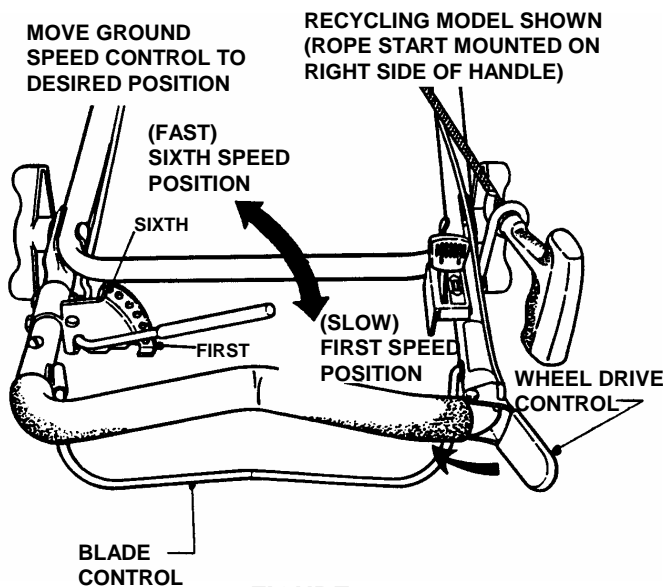

FIGURE 2.4
1. Move ground speed control to the desired speed position. See Figure 2.4.
3. Move wheel drive control against handle to engage wheel drive and propel mower forward. Forward speed can be adjusted while the mower is moving by changing position of the ground speed control. See Figure 2.4.